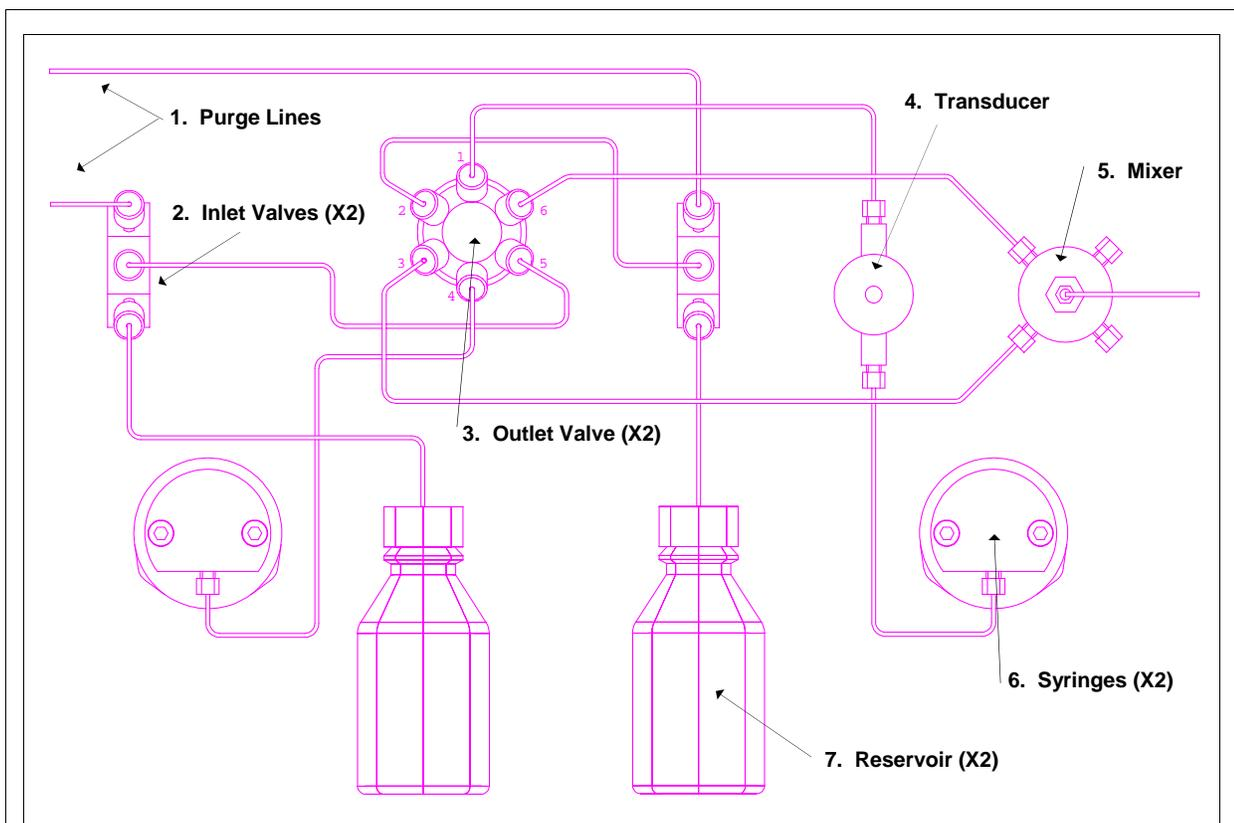

Figure 1.7: Dual Flow Schematic
A flow schematic for a dual gradient syringe with active high pressure valving is shown in Figure 1.7. Fluid is transferred from the solvent reservoirs (7) through the low pressure inlet valves (2) to the syringes (6) via the high pressure active valve (3). The low pressure inlet valves are also used to divert flow to waste (1) for purging the syringes. The syringes dispense the fluid to the mixer (5) through active high pressure valve (3). One of the syringes has a flow through pressure transducer (4) installed between the syringe and the high pressure active valve. A micro-mixing chamber (5) combines and mixes the output of the two syringes.